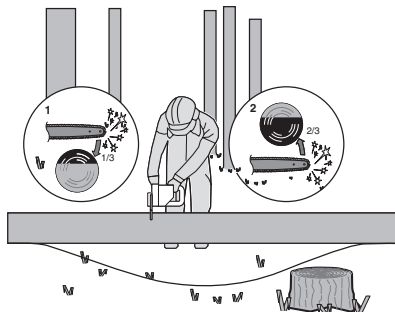

Figure 5
When the log is supported on both ends, as illustrated in Figure 5, cut 1/3 the diameter from the top (overbuck) (1). Then make the finished cut by underbucking (2) the lower 2/3 to meet the first cut.